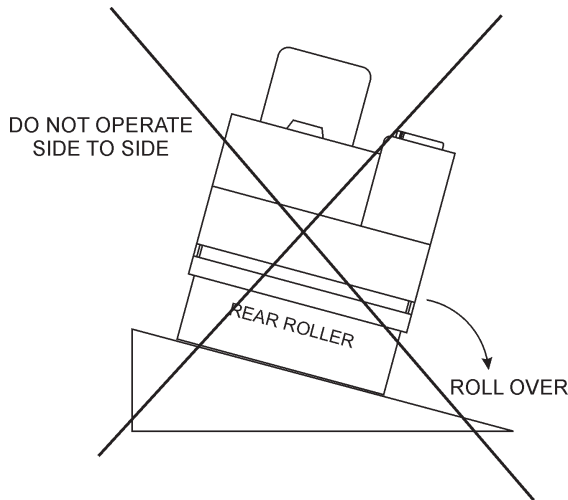

Figure 3. Tipping (Rollover)
This roller is **not offered** with a **Rollover Protection Structure** (ROPS). The possibility exists of the roller tipping over causing severe bodily harm, even death, if side-side operation is used (Figure 3). **DO NOT** use this roller for side to side applications.
**NEVER!** operate the roller on side slopes (Figure 3). The possibility exist that the roller could tip over (roll over), thus causing bodily harm even death and serious damage to the equipment.
This roller is **not offered** with a **Rollover Protection Structure (ROPS)**. The possibility exists of the roller tipping over causing severe bodily harm, even death, if side-side operation is used (Figure 3). **DO NOT** use this roller for side to side applications.